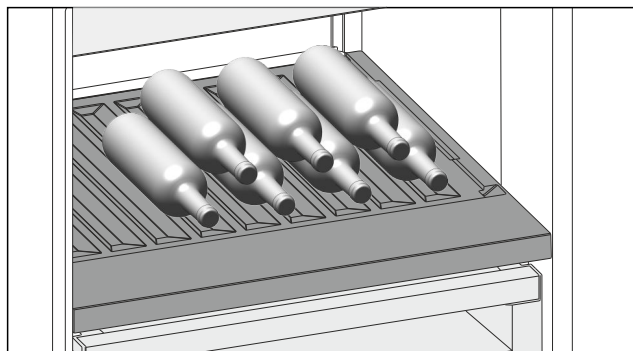

Fig. 104
- Place bottles in the back row with their bases against the back wall. (see Fig. 104)